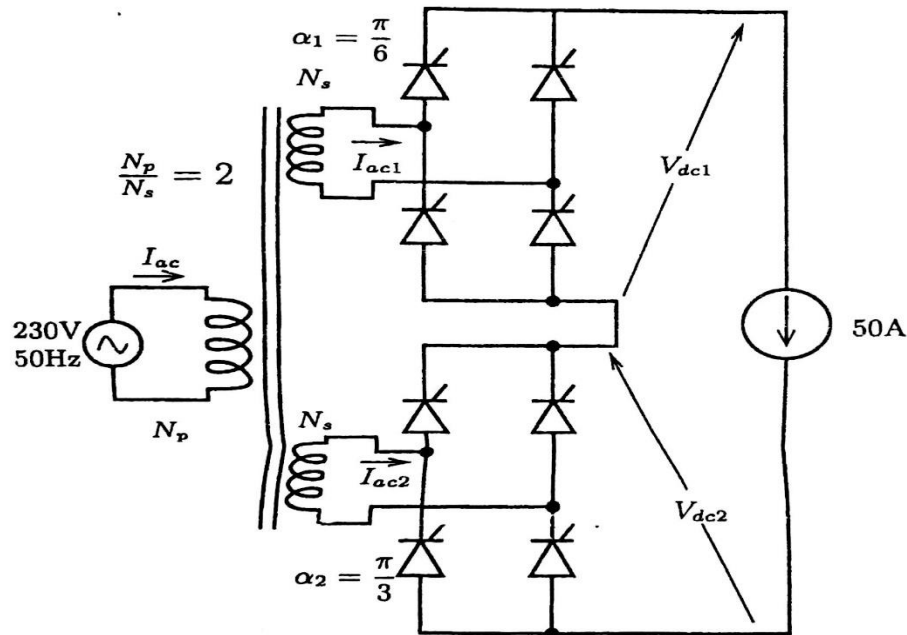

Figure 1
- 6 Figure 1 shows a multilevel rectifier. Two fully controlled converters are stacked at the output side to obtain a higher output voltage. The input sources for the individual converters are derived from a 230 V, 50 Hz ac source through a transformer with turns ratio 2:1. The dc load current is constant and ripple free. The top converter (converter 1) is fired at an angle $\alpha_1 = 30^\circ$ and the bottom converter (converter 2) is fired at an angle $\alpha_2 = 60^\circ$